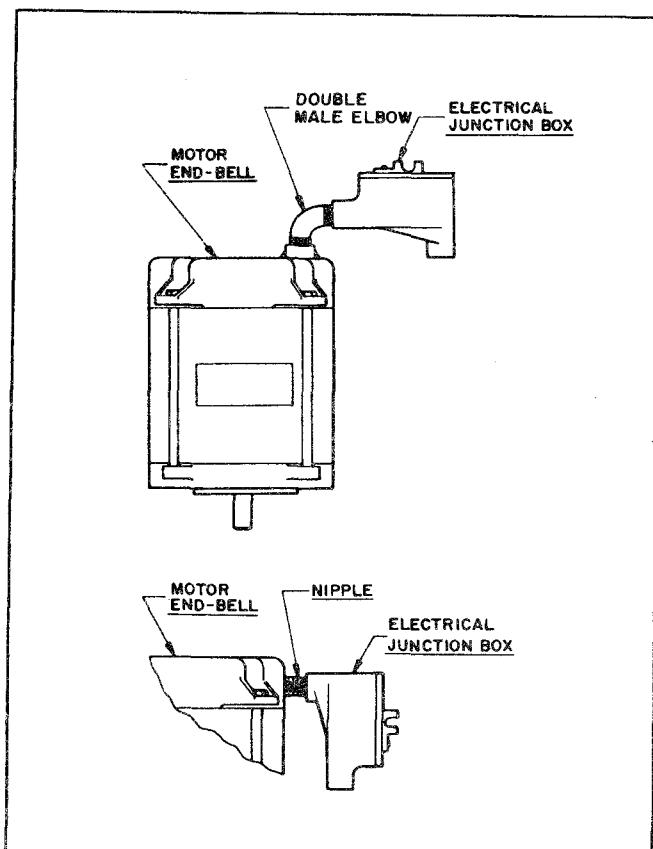

Figure 4. Junction Box and Connecting Nipple
**A. Explosion Proof Motors (Figure 4):** The following safety requirements are required when installing and using Explosion Proof Motors:
2. Installation of electrical junction boxes on the motor is extremely important to the electrical integrity of the motor and the electrical wiring system. When installed, the junction box and the nipple connecting the box to the motor should not show any sign of movement. Refer to Figure 4. If there is any movement, DO NOT PUT INTO SERVICE until corrected. USE COULD RESULT IN A SEVERE SHOCK HAZARD.